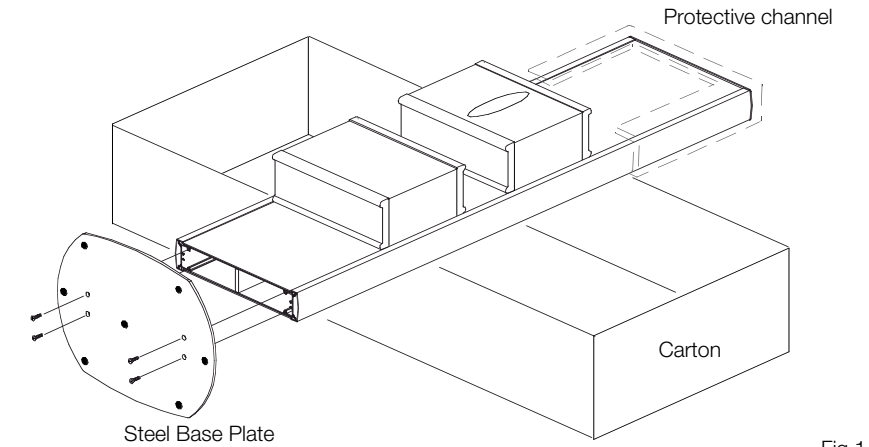

Fig 1
- Use the (4) Phillips head machine screws to attach base plate to kiosk as shown (Fig 1).